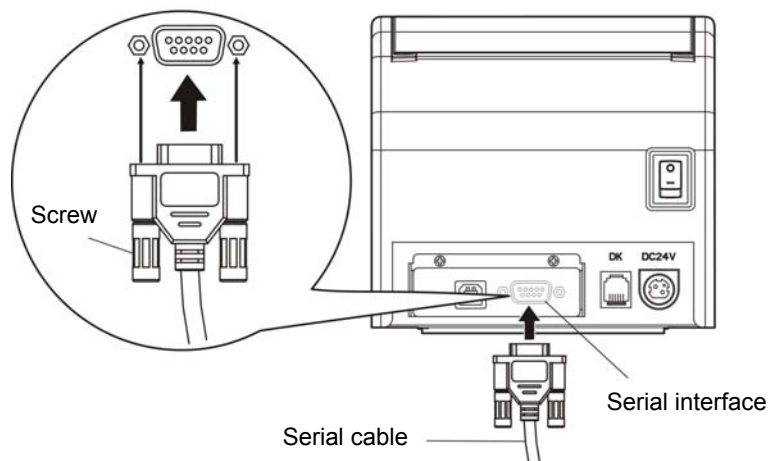

Figure 2-5 Connecting the serial cable
1. Make sure the computer and the printer are both turned off, plug the serial cable to the serial interface of the printer. Tighten the screws on both sides and make the cable fixed (as shown in Figure 2-5).